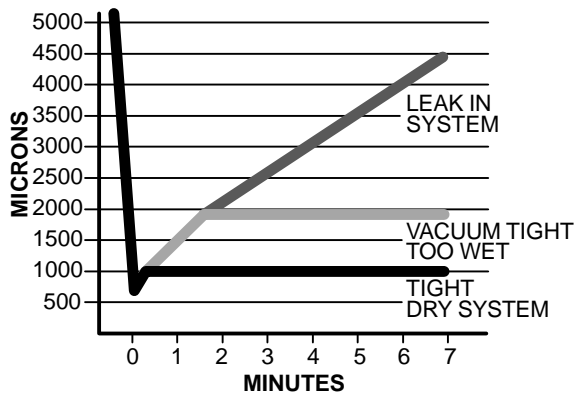

FIGURE 21 — Deep Vacuum
7. Evacuate using either the deep vacuum or the triple evacuation method (see Fig. 21 and 22).
The deep vacuum method requires a vacuum pump capable of pulling a vacuum of 500 microns and a vacuum gauge capable of accurately measuring this vacuum depth. The deep vacuum method is the most positive way of assuring a system is free of air and liquid water (see Fig. 21).